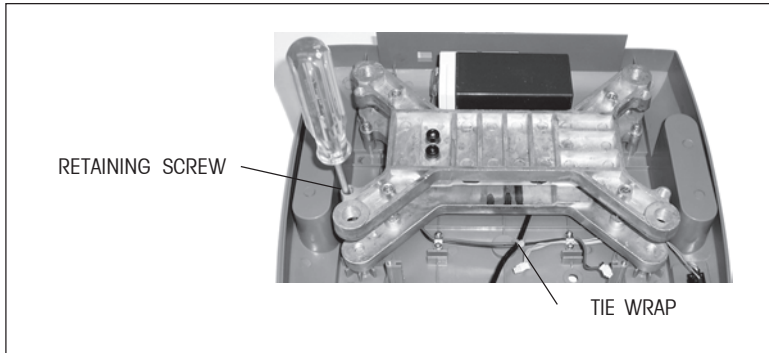

Figure 4-17. Load Cell Frame Mounting Bolt Locations.
7. Position the Load Cell and Frame in the Bottom Housing and install the four retaining screws through the Frame into the Bottom Housing. See Figure 4-17.